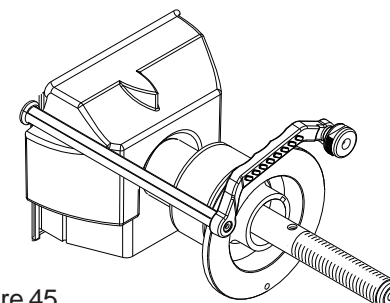

Figure 45
4. Gently pull the **SAPE** arm **OUT** until it is **FULLY** extended, (Figure 45) hold it steady for about 1 second, a tone will sound.